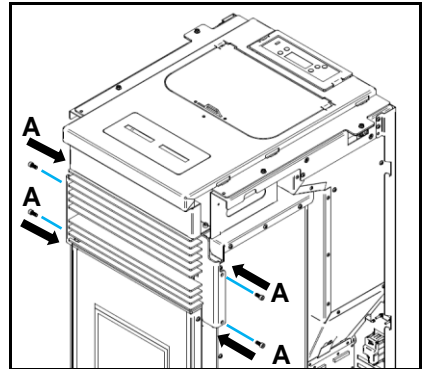

Figure 39 - Front grille assembly
e) Subsequently, fit the assembly to the equipment, using four screws **A** (DIN 912 M5x12) as shown in Figure 39.